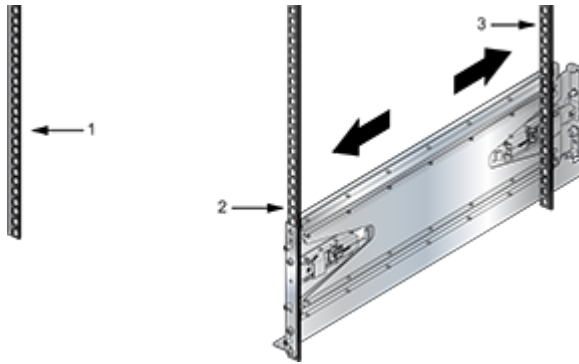

Figure 11: Adjusting the Right Shelf
4. Glide the slide-end to a position outside of its rear rack post (Figure 11: Adjusting the Right Shelf).